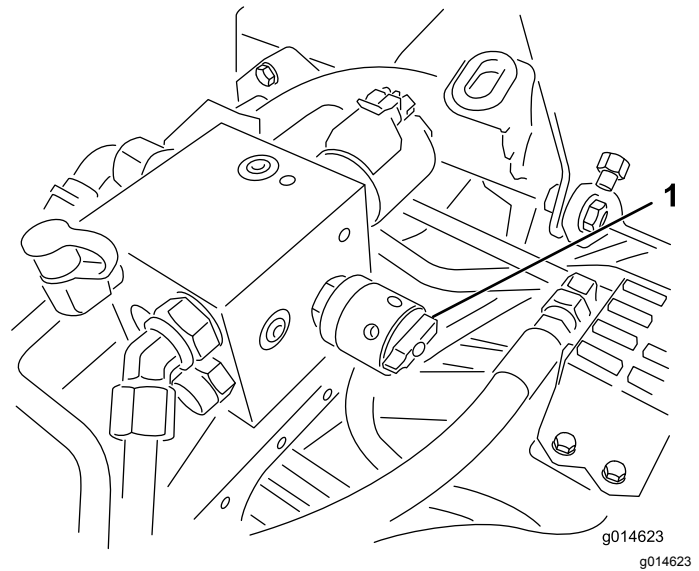

Figure 51
4. Adjust the reel speed by rotating the knob (Figure 51) until the indicator arrows are in line with the number you determined in step 3.